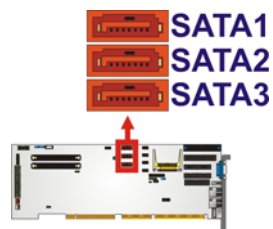

Figure 3-16: SATA Drive Connector Location
- CN Location:** See **Figure 3-16**